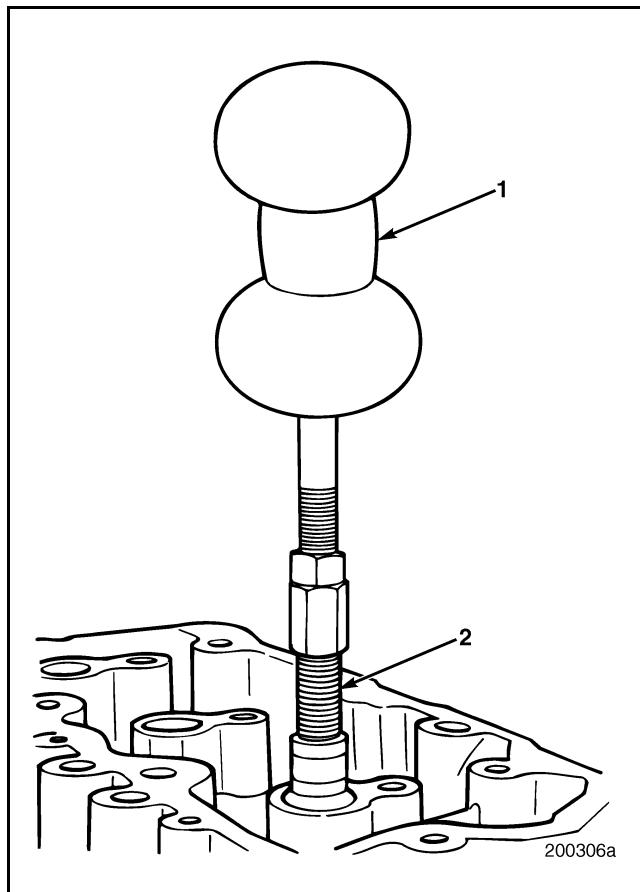

Figure 269 — Removing Injection Nozzle Holder Insert
2. Install the nozzle sleeve (insert) puller J 42678 to the slide hammer J 2619-01, or equivalent, as shown in Figure 269.